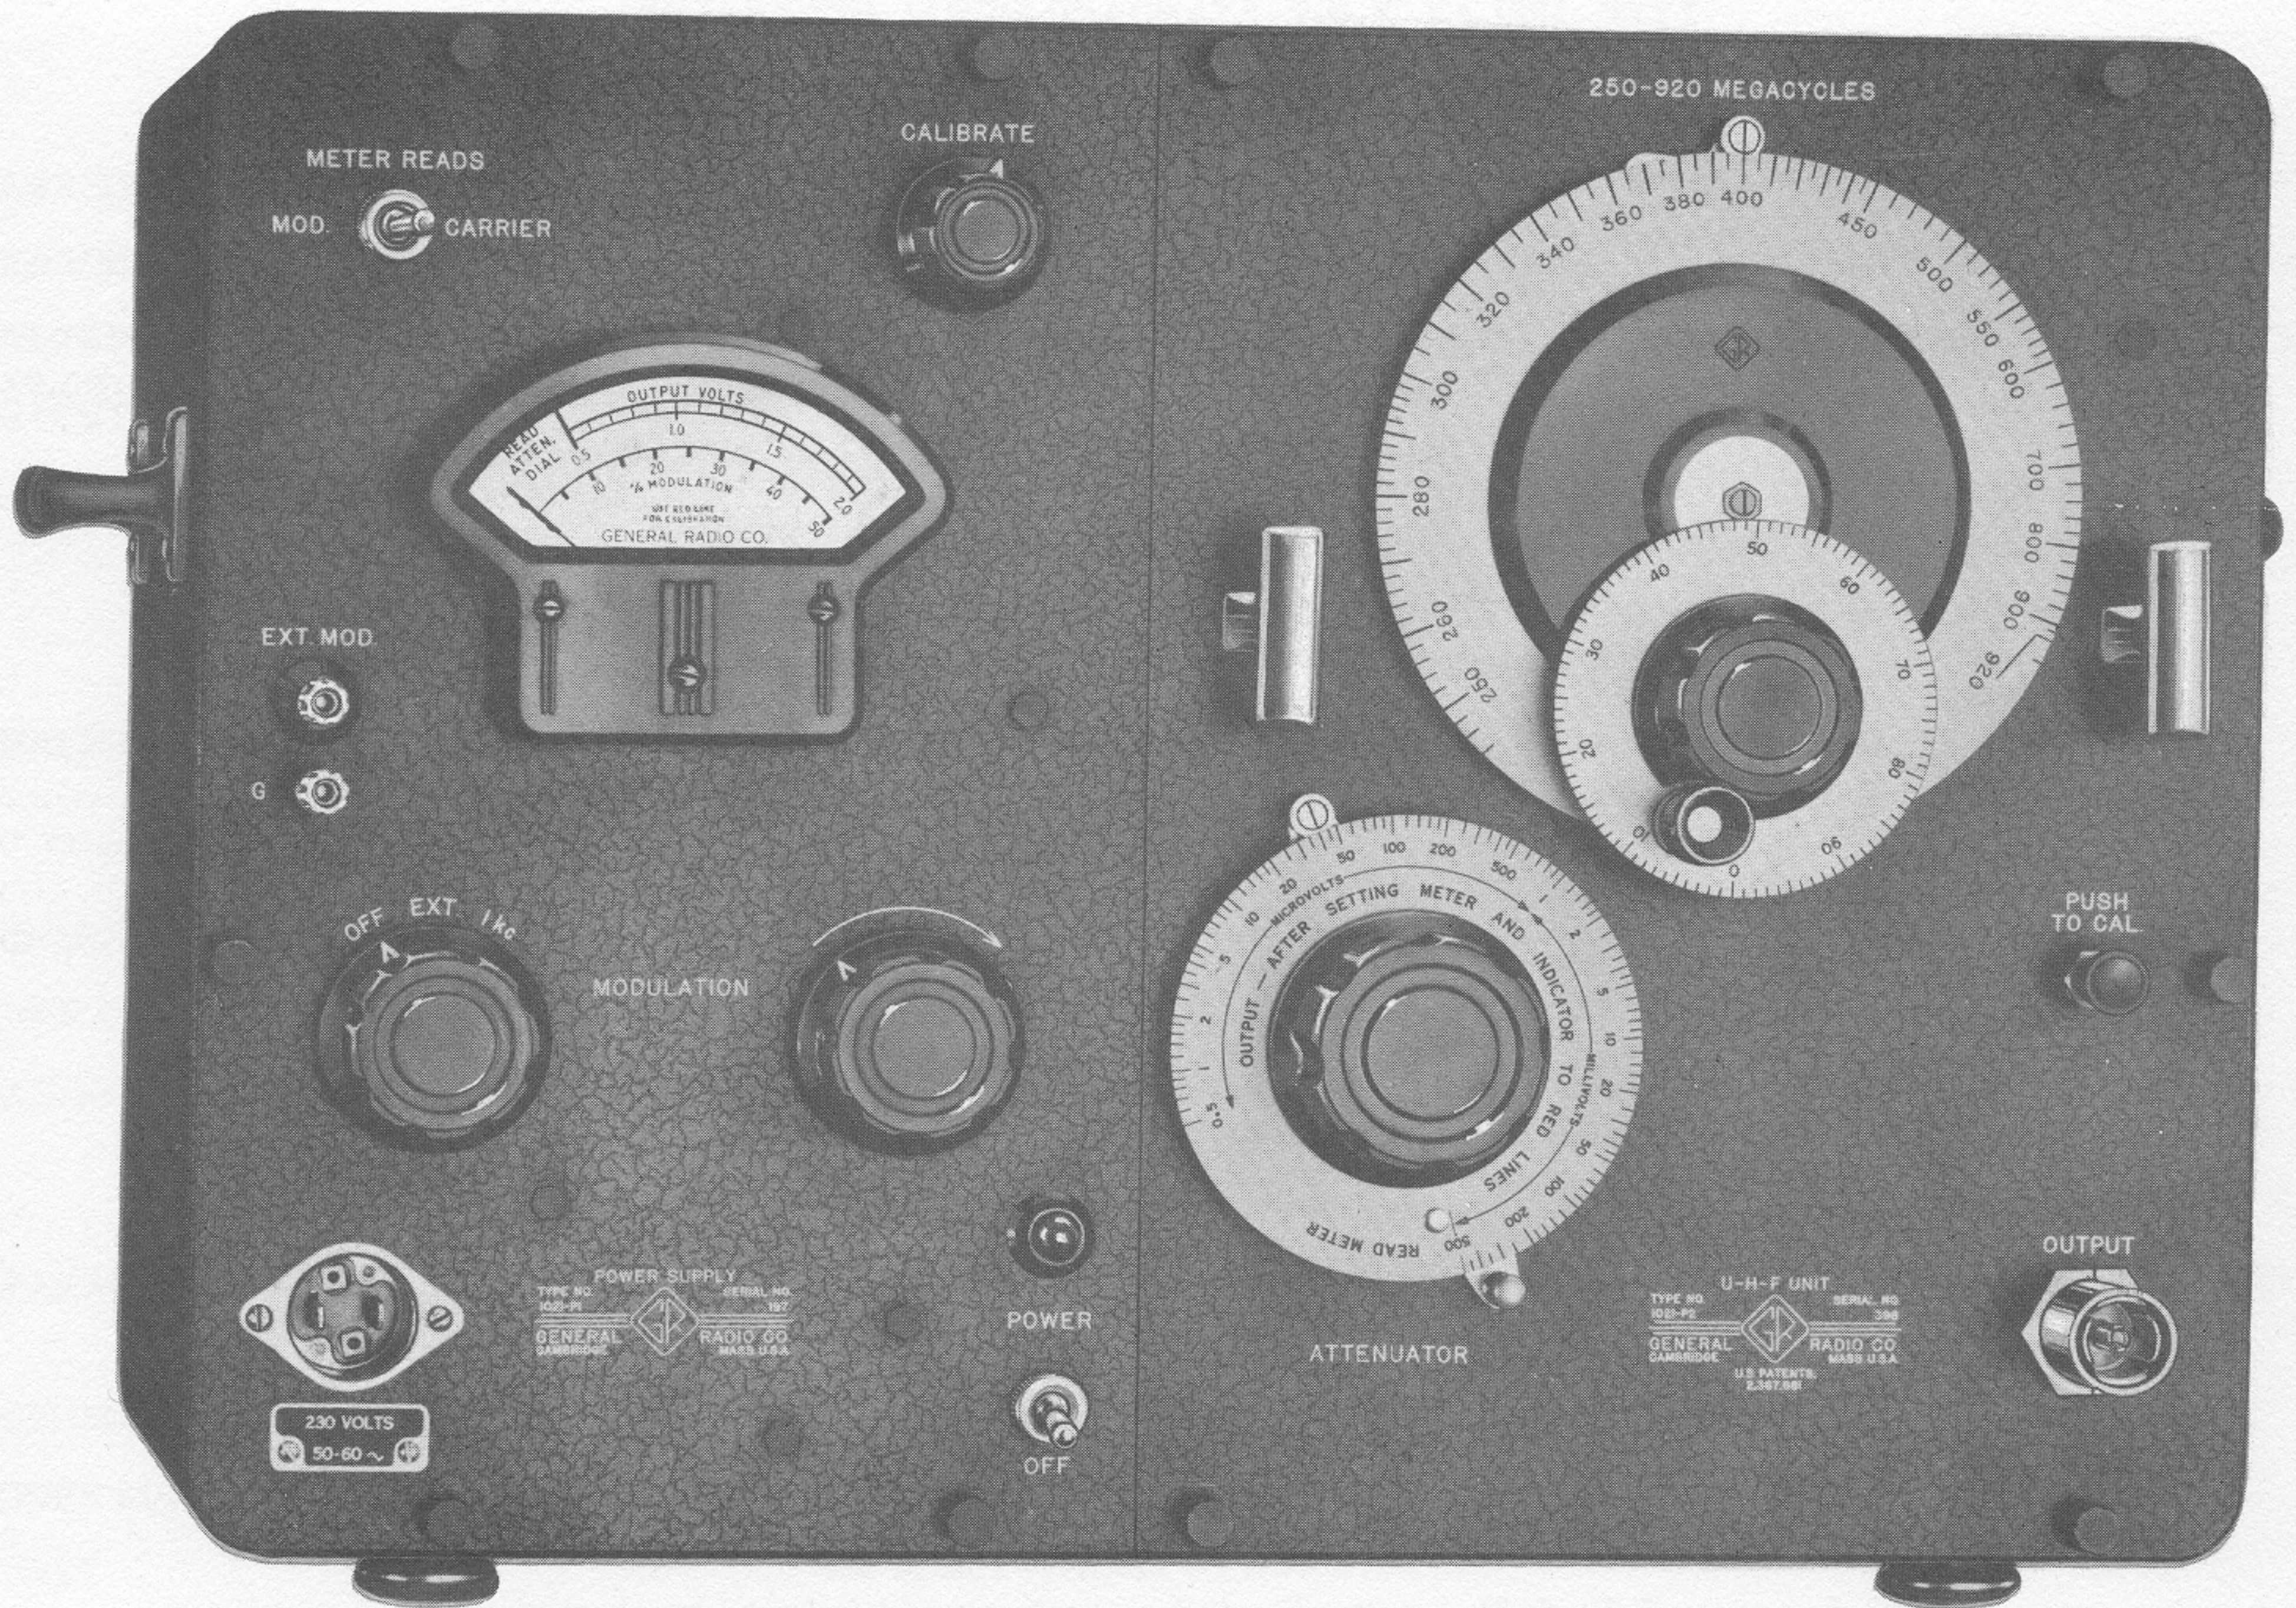

Figure 1. Type 1021-AU Standard-Signal Generator.
**NOTE:** A third unit, the Type 1021-AW U-H-F Standard-Signal Generator, for 900 to 2000 Mc, has recently been made available. This instrument, similar in appearance and performance to the lower-frequency generators described in this book, uses a Type 5675 pencil tube as the oscillator and is tuned by shorting elements in the transmission-line section. To avoid incidental frequency modulation, square-wave modulation from an external source is used. The Type 1021-AW Standard-Signal Generator consists of the Type 1021-P1 Power Supply and the Type 1021-P4 U-H-F Unit, mounted in the same cabinet as shown in Figure 1.
1.1 GENERAL. The Type 1021-AU Standard-Signal Generator (Figure 1) consists of a Type 1021-P2 R-F Unit and a Type 1021-P1 Power Supply, combined in a single aluminum cabinet. Its frequency range of 250 to 920 Mc is covered in a single band.